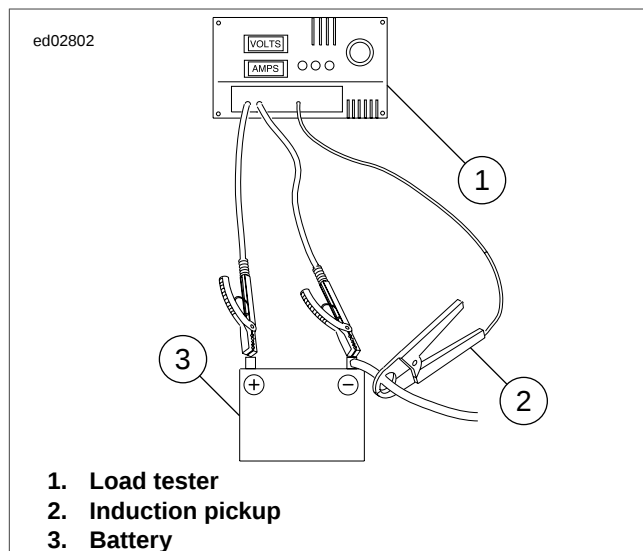

Figure 3-12. Check Current Draw (Ignition Switch On)
- See Figure 3-12. Connect load tester.